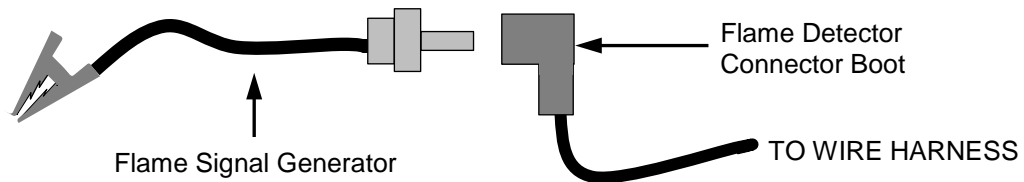

Figure 6-5: Connecting the Flame Signal Generator
- (b) Push the **BACK** button three (3) times to return to the upper level menu.
- (c) When the Controller gets into the ignition phase, the Control Panel will show **IGNITION TRIAL**. At that point attach the alligator clip (see Figure 6-5) to any bare metal surface or ground. The C-More display should now show **FLAME PROVEN** and begin to ramp up to 100% fire rate. Note that no gas or flame is present in the Heating Boiler at this time.